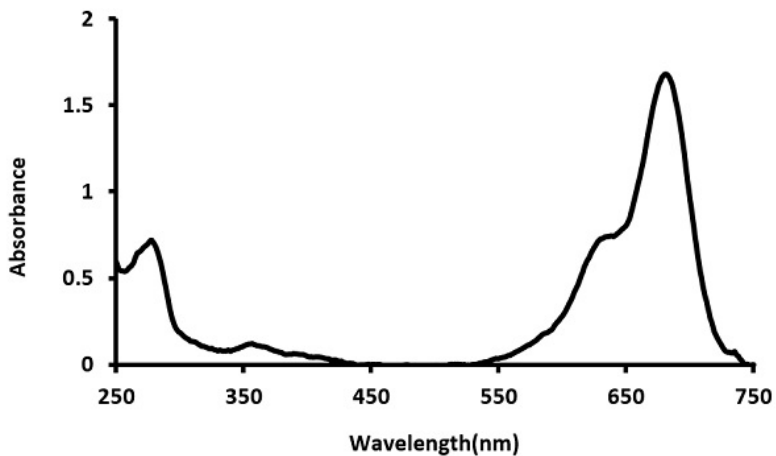

Figure 1. OD readings obtained with BSA sample as described in section 11:
- Take 2-3 μL of the product and measure the absorbance spectra (figure 1).